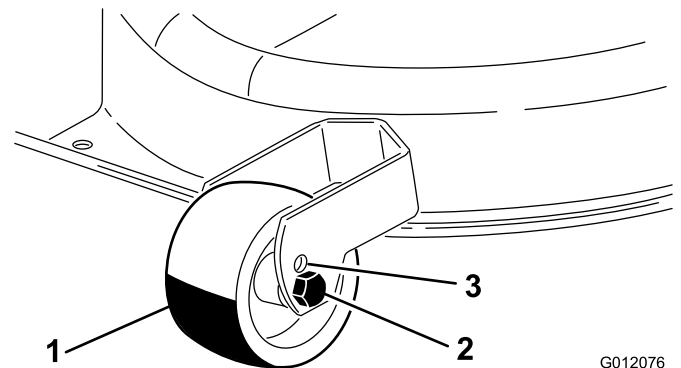

Figure 10
- If you use the height-of-cut setting 1 or 2, move the gauge wheels to the upper (highest) holes in the wheel brackets (Figure 10).
- If you use the height-of-cut setting 3 through 7, install the gauge wheels in the bottom (lowest) hole in the wheel bracket (Figure 10).